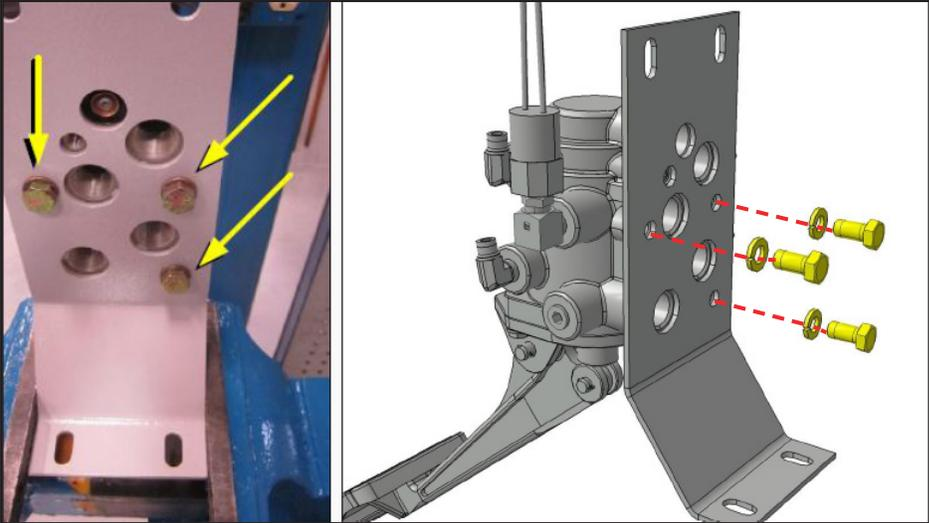

Figure 11: Remove and retain bolts and nuts to disconnect the bracket from the treadle valve.
11. Remove and retain the three (3) sets of 3/8" bolts and lock washers to disconnect the bracket from the treadle valve (Figure 11).